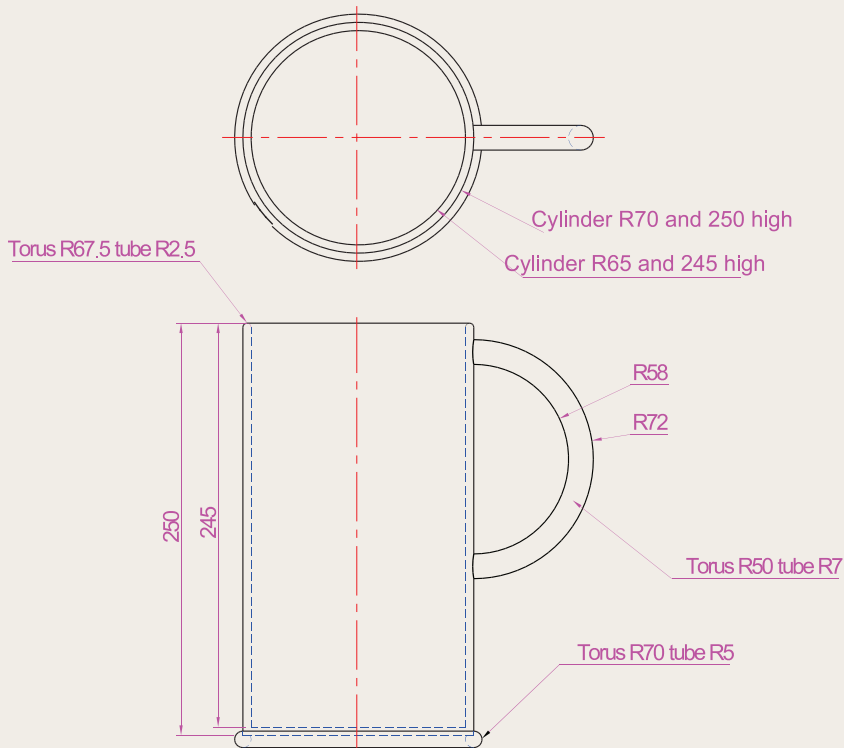

Fig. 14.49 Exercise 4
- Construct a solid of revolution of the jug shown in the orthographic projection (Fig. 14.49). Construct a handle from an extrusion of a circle along a semicircular path. Union the two parts. Place the 3D model in a suitable isometric view and render.